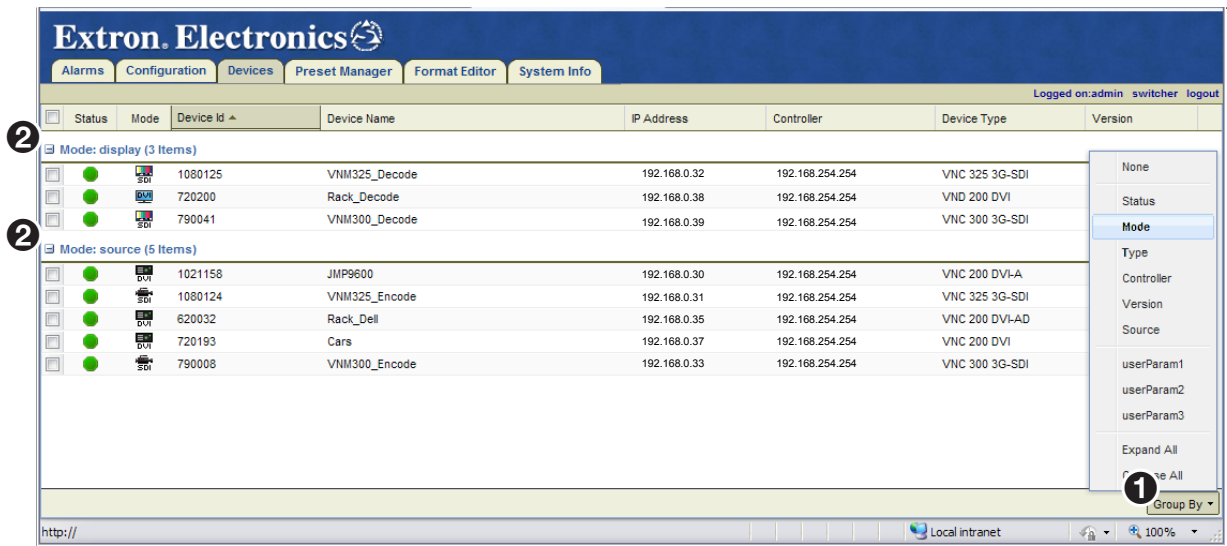

Figure 30. Grouping Devices
Devices can be sorted in groups using the **Group By** menu (see figure 30, ①).
- Grouped devices can be expanded and collapsed by clicking on the square icon  located next to the group name (see figure 30, ②).